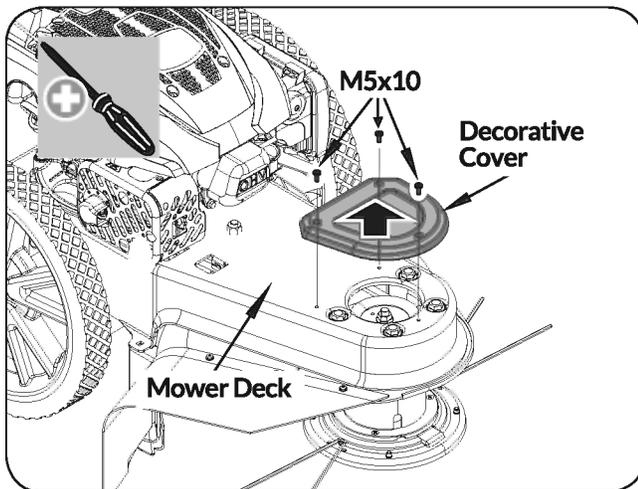

Figure 17
1. Remove the three M5x10 screws that hold the decorative cover to the mower deck. (See **Figure 17**)